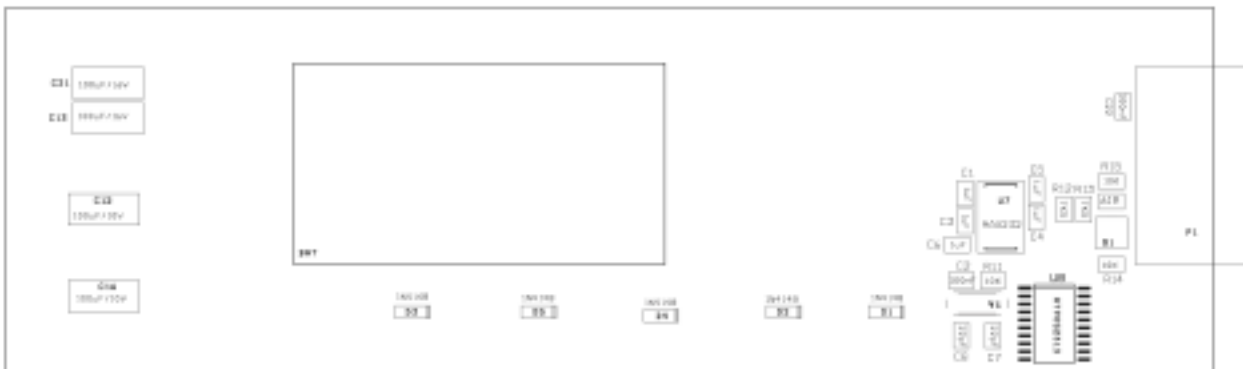

Figure 10. CAT310DB1 Component Placement – Bottom Side
- Figure 10. CAT310DB1 Component Placement – Bottom Side